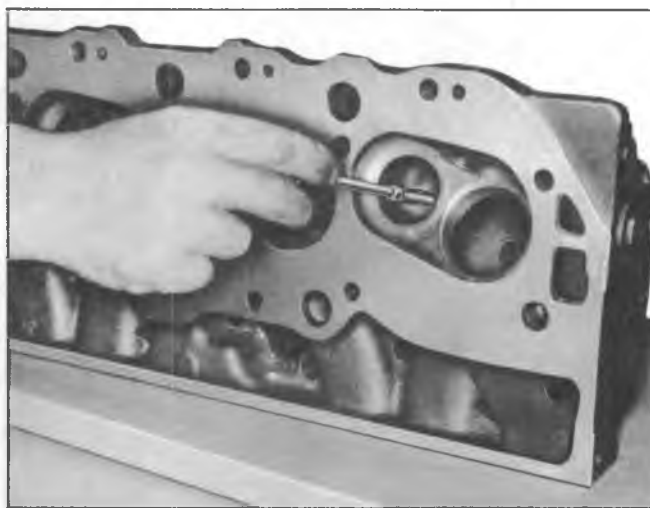

Fig. 15-Cleaning Valve Guides
2. Thoroughly clean the valve guides using Tool J-8101 (fig. 15).